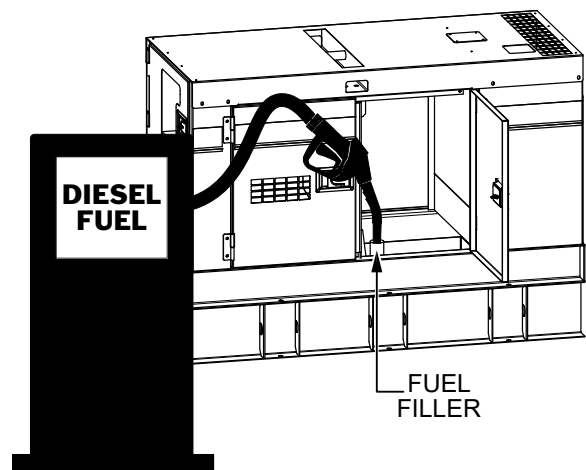

Figure 32. Fueling The Generator
2. Open the enclosure door, remove the fuel cap, and fill the fuel tank as shown in Figure 32.